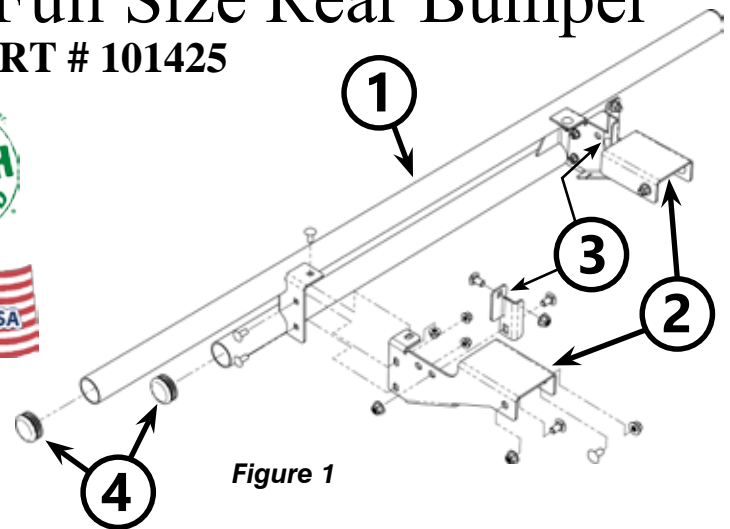
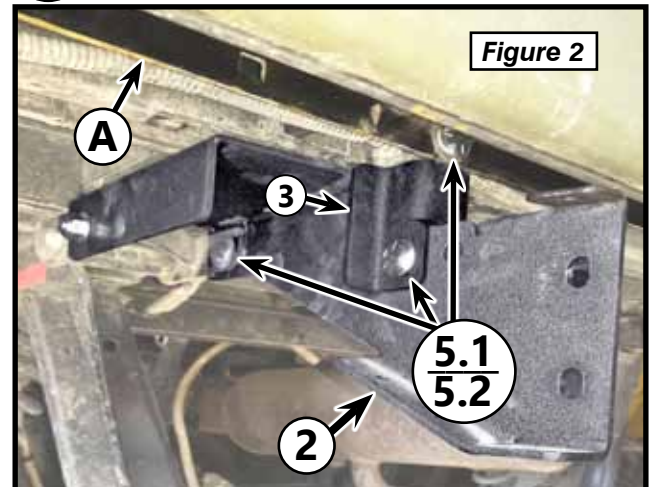

Figure 1
Figure 2
1. Assemble tube caps (4) to bumper tubes as shown in Figure 1.
2. Locate the bolt strip with square cutouts (A) shown in Figure 2 & 3 at the rear of the dump box
3. Position each of the bumper hangers (3) according to diagrams shown in Figures 1,2&3. Loosely bolt to strip using two 3/8" x .75 Carriage Bolts (5.1), and 3/8" Hex Flange Nuts (5.2) as seen in Figure 2&3.
4. Hold passenger side bumper bracket (2) in place over bed hinge and use two 3/8" x .75 Carriage Bolts (5.1) and 3/8" Hex Flange Nuts (5.2) to bolt brackets to the bed hinge as shown in Figure 2. Use one 3/8" x .75 Carriage Bolt (5.1) and 3/8" Hex Flange Nut (5.2) to bolt brackets to bumper hanger. Repeat step 4 for driver side.